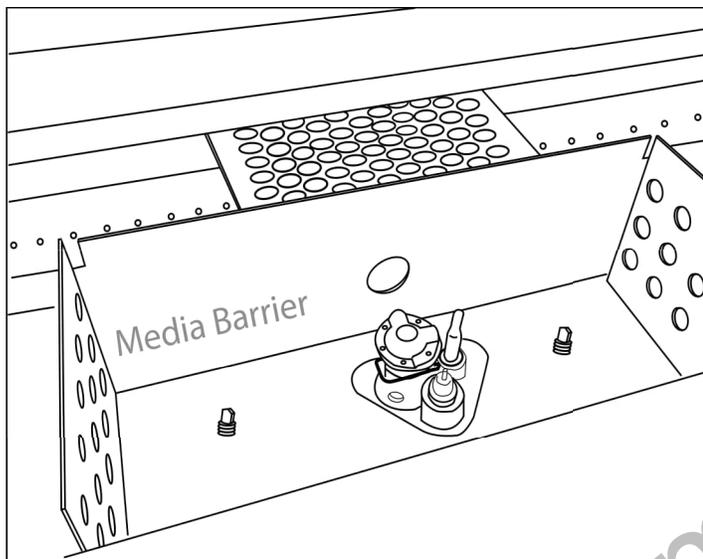

Figure 49 - Pilot box screw locations
Step 7: In the center of the burner pan where the pilot is located (See Figure 49), remove the pilot head. **Note:** Some media may need to be removed to gain access.